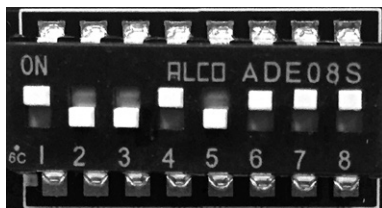

Figure 3. SW1 DIP switch on AVDB circuit board (Default pin positions displayed)
11. During boot up, "b" (for 'booting') will display for a few seconds. The Display on the AVDB should then read "b", indicating that the loop is signaling properly. If the Display does not read "b", be certain all connections are tight. If it still does not indicate "b", see Figure 3, page 6.
Before installing the AVDB, the following six functions can be set by switching/moving the switches as indicated below. Refer to **Figure 3**, below.